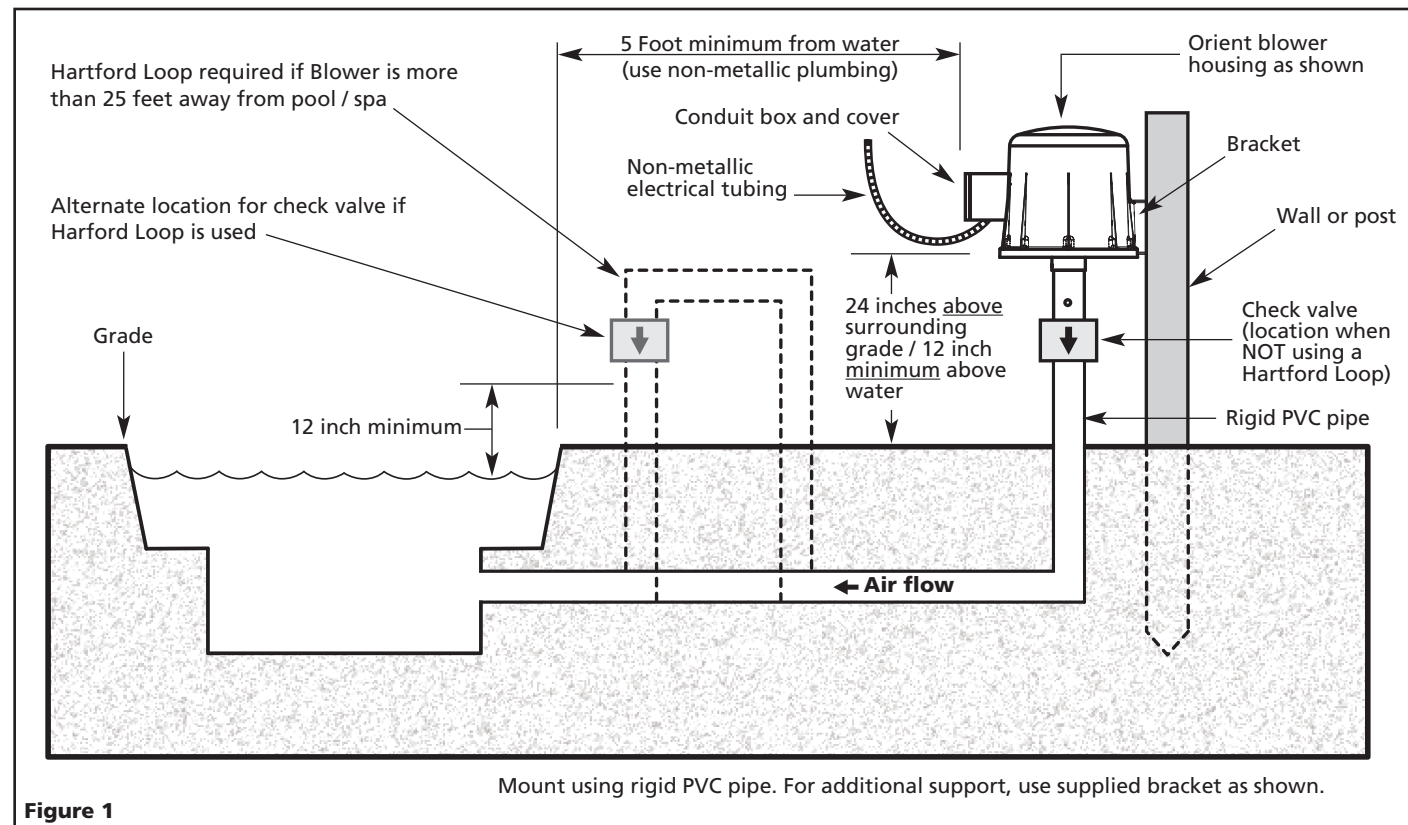

Figure 1
**⚠ WARNING** Failure to observe installation guidelines, could result in death or serious injury. See Figure 1 for recommended installation diagram.
4. Mount blower in a vertical position using vertical rigid PVC pipe as shown in Figure 1. For additional support use supplied bracket as shown in Figure 1. For warm climates, try to locate the blower in a shaded location.
**▲ WARNING** *If the blower is to be installed more than 25 ft from the spa, it will be necessary to install a loop that is 1 foot above the water line and as close to the spa as possible (See Figure 1).*